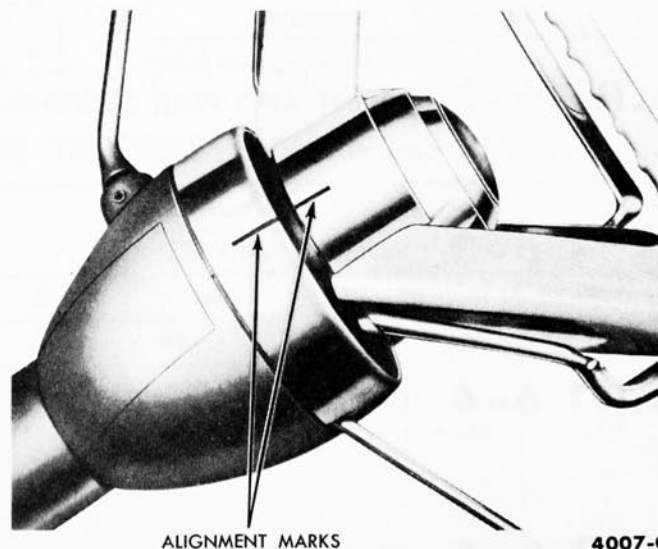

FIG. 1—Straight-Ahead Position Marks
1. Drive the car in a straight line far enough to establish the straight-ahead position of the front wheels, and then mark the steering wheel hub and the steering column collar (Fig. 1). **Do not adjust the steering wheel spoke position at this time.** If the front wheels are turned at any time during the inspection, align the marks to bring the wheels back to the straight-ahead position.